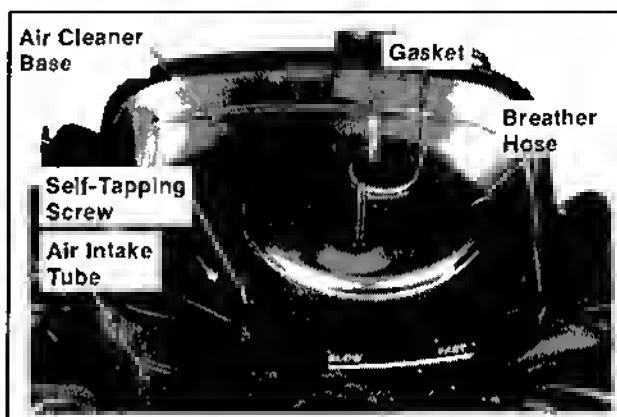

Figure 11-50. Installing Air Cleaner Base.
1. Install the gasket, air cleaner, base, air intake tube, breather hose, and self-tapping screw. Refer to Figure 11-50.